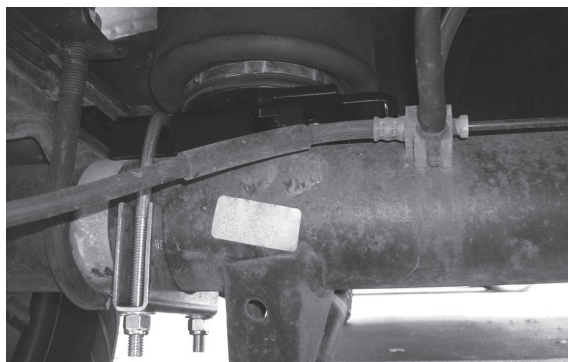

fig. 18
2. Position the lower bracket so that the outboard edge is between the leaf spring U-bolts (Fig. 15). Insert the U-bolt (F) provided in the outboard slot of the lower bracket (Fig. 18).
3. Secure the lower bracket to the axle using the saddle clamps (G), 3/8" flat washers (K) and 3/8" nylon lock nuts (J). See Fig. 18.
4. Torque the nuts to 16 lb.-ft. (22Nm) (Fig. 18). Trim excess bolt off if desired.